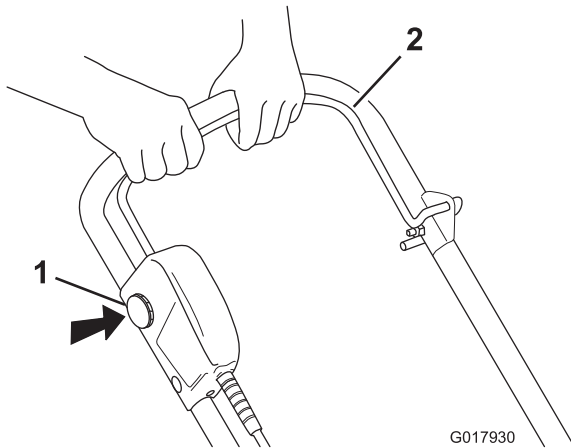

Figure 5
1. To start the motor, insert the interlock key, press and hold the interlock key, and squeeze the bail to the handle (Figure 5).